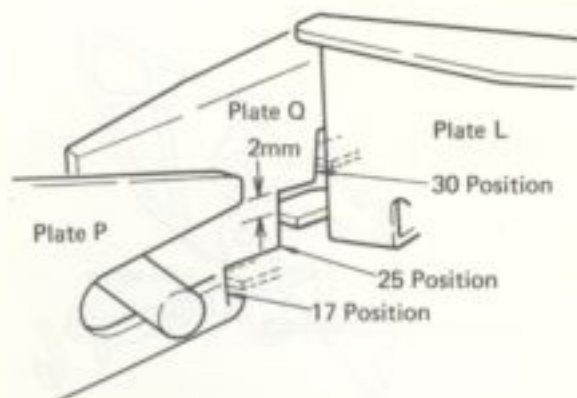

Fig. 35
3. Confirm that when the STOP button is released, plates S and F do not shift at point B in Fig. 35.
4. So that the position indicated in Fig. 35 becomes 2 mm, turn adjusting screw.